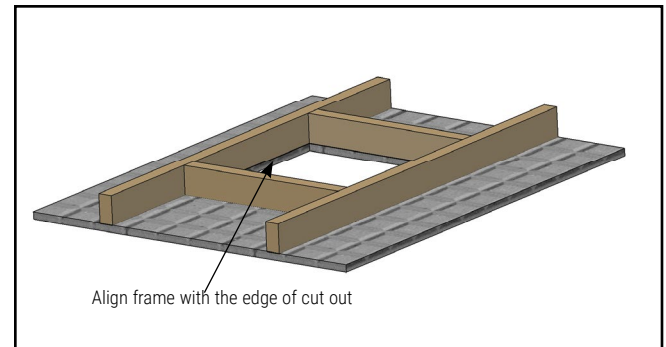
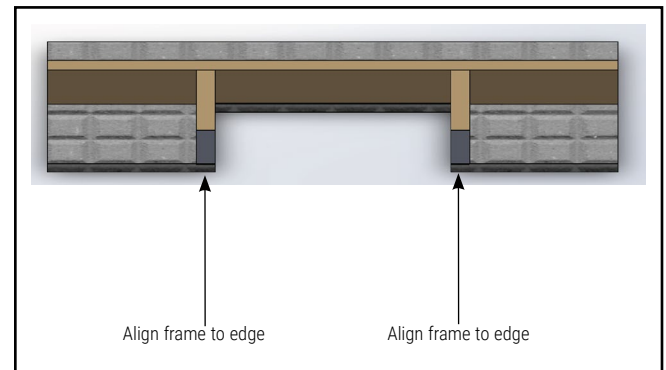

Figure 4.
Figure 5.
4. Frame out ceiling opening. (Figure 4 & Figure 5)